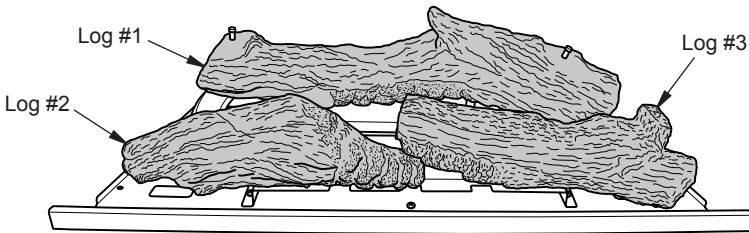

Figure 19 - Installing Logs 1, 2 and 3
1. Install log 1 onto the two slots in the middle plate (see Figure 19).
2. Install log 2 onto the two slots in the left plate (see Figure 19).
3. Install log 3 onto the two slots in the right plate (see Figure 19).